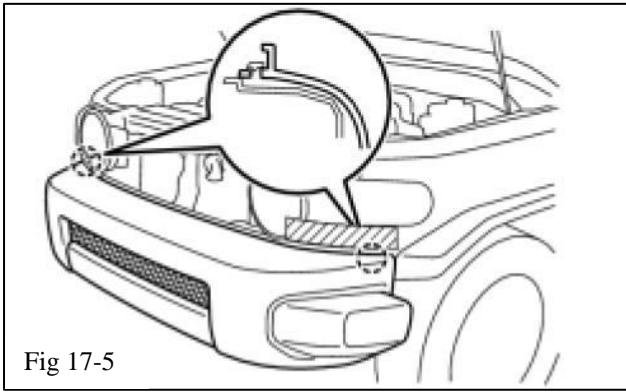

Fig 17-5
- (f) Disengage the 2 claws and remove the front bumper cover (Fig 17-5).